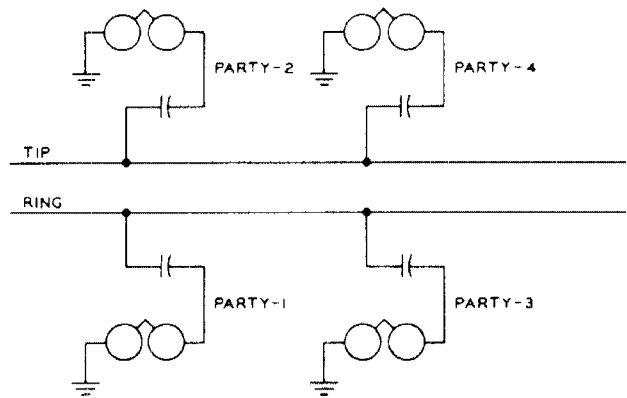

Fig. 3 — Four-Party Semiselective Grounded Ringing
3.04 Four-party semiselective ringing (Fig. 3) is accomplished by connecting the capacitor ringing bridges of two stations from each side of the line to ground. Code ringing is used to differentiate between stations on same side of line.